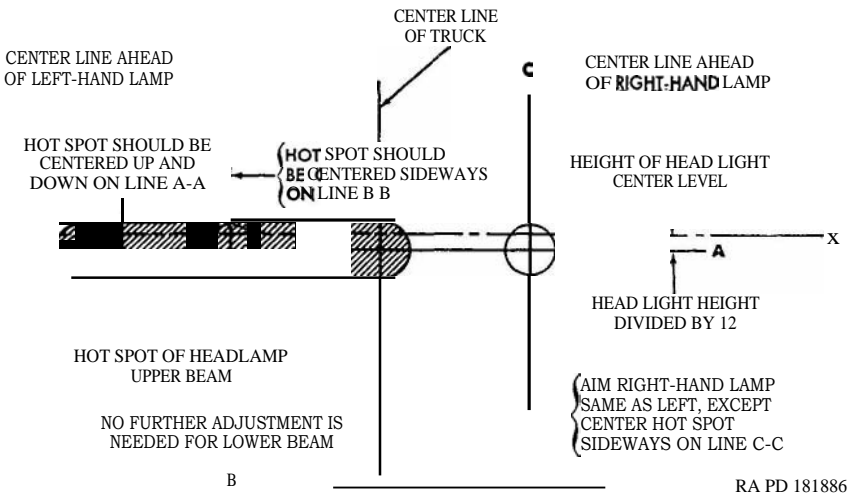
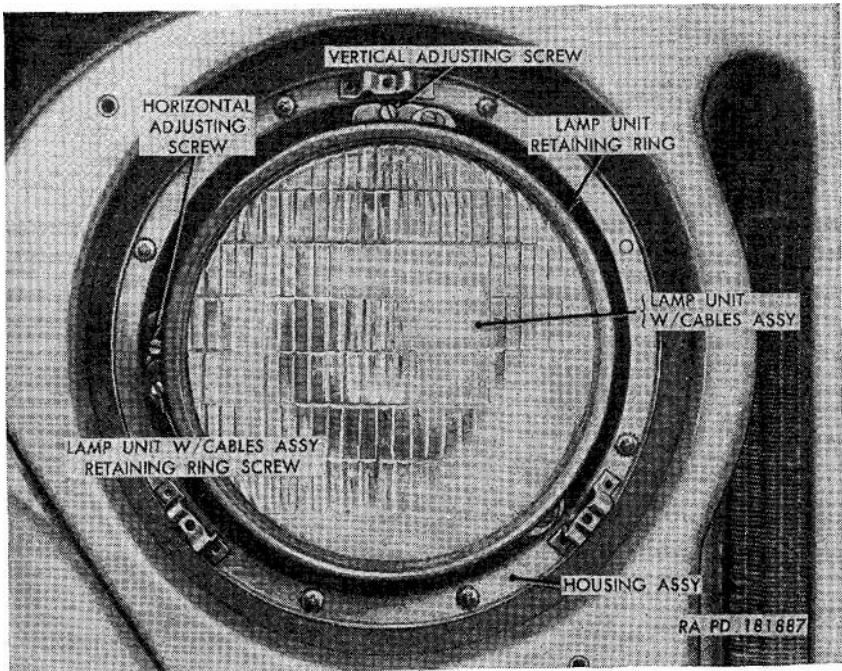

Figure 100. Headlight adjustment chart.
Figure 101. Headlight assembly—door removed.
- (1) Place the unloaded vehicle on a smooth, level, horizontal surface so the headlights are 25 feet from a vertical wall or other vertical surface. The center line of the vehicle should be at right angles to the vertical surface.
- (2) Measure the height of the headlight center from the floor, and mark a horizontal line at this height on the vertical surface (X-X, fig. 100).
- (3) Mark line A-A, one-twelfth the distance between X-X and the horizontal surface, below X-X (fig. 100).
- (4) Measure the distance from the center of the left headlight to the center of the right headlight. Scribe this dimension on line X-X and then mark vertical lines B-B and C-C as shown in figure 100.
- (5) Turn on headlights at light switch and select high beam with dimmer switch. It is not necessary to make adjustment on low beam.
- (6) Cover one headlight while adjusting (aiming) the other. Aim headlight so center of hot spot registers with intersecting lines A-A and B-B, or A-A and C-C respectively (fig. 100).
- (7) Remove headlight door (b (1) (a) below).
- (8) Adjust headlight beam by the adjusting screws shown in figure 101. Top adjusting screw provides vertical adjustment and side screw provides horizontal adjustment. Turn adjusting screws as necessary to obtain beam pattern as shown in figure 100. Adjust opposite headlight in same manner.
- (9) Install headlight door assembly (b (2) (d) below). Turn off headlights.
(1) Removal.
- (b) Loosen the three lamp-unit retaining ring screws (fig. 101). Turn the ring counterclockwise and remove from the lamp-unit.